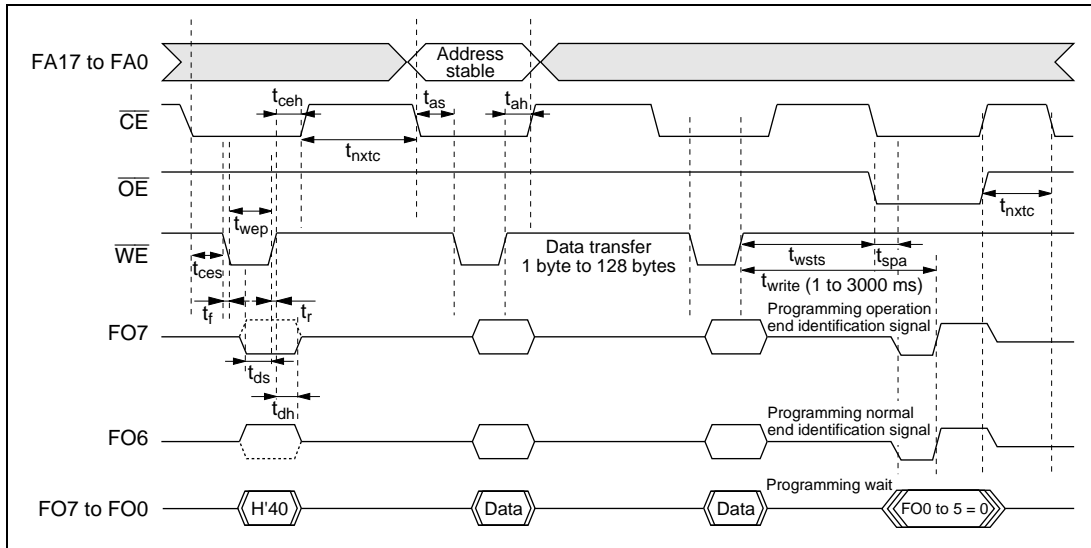

Figure 21.20 Auto-Program Mode Timing Waveforms
- Memory address transfer is performed in the second cycle (figure 21.20). Do not perform transfer after the second cycle.